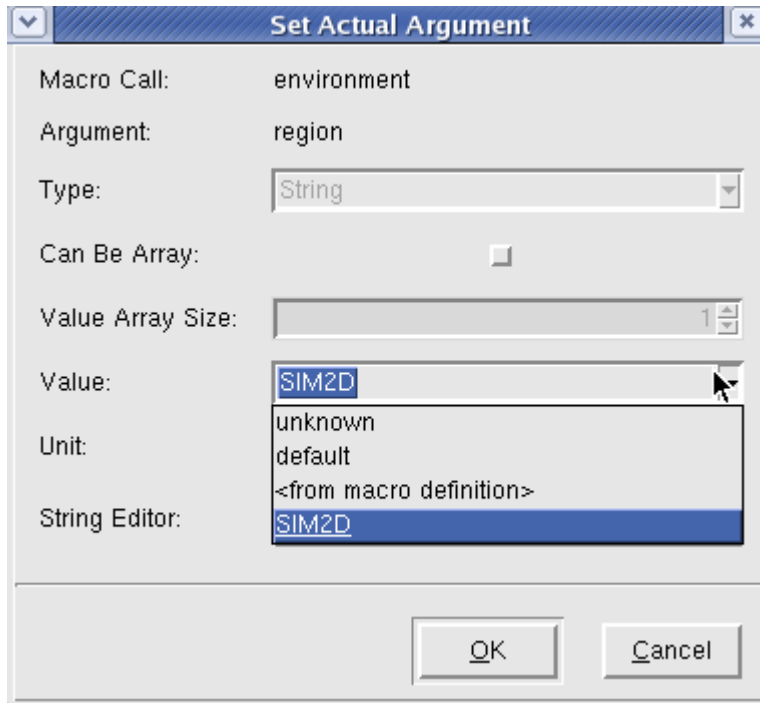

Figure 40: Selecting the proper 2-d cross section.
10. To assign the region click on environment, and then double click on region, Select SIM2D from the pop-up (Figure 40).